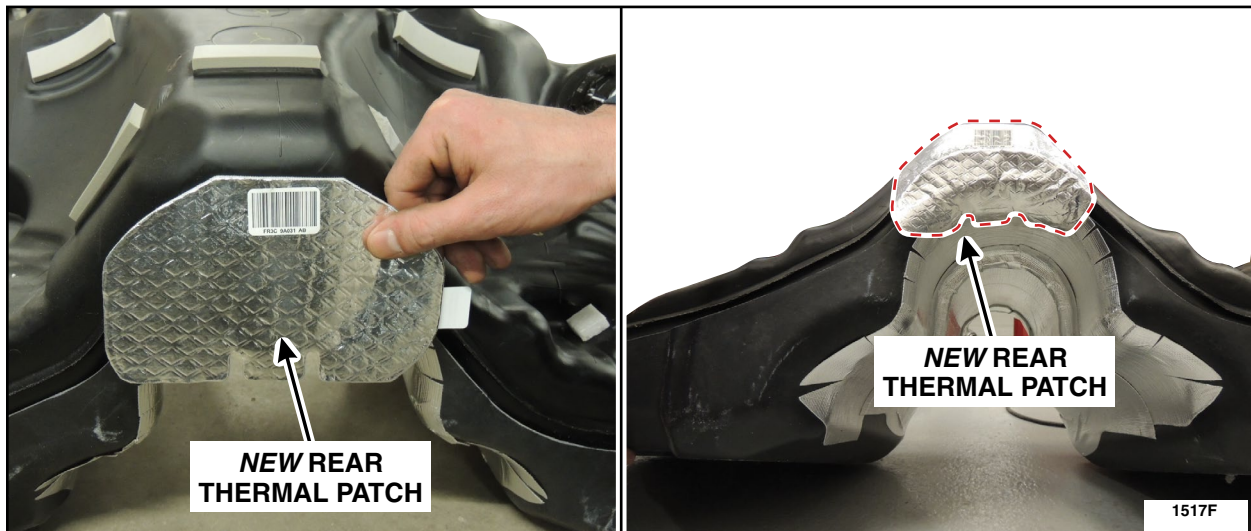

FIGURE 7
8. Apply *new* thermal patch to the rear of the tank. See Figure 7.